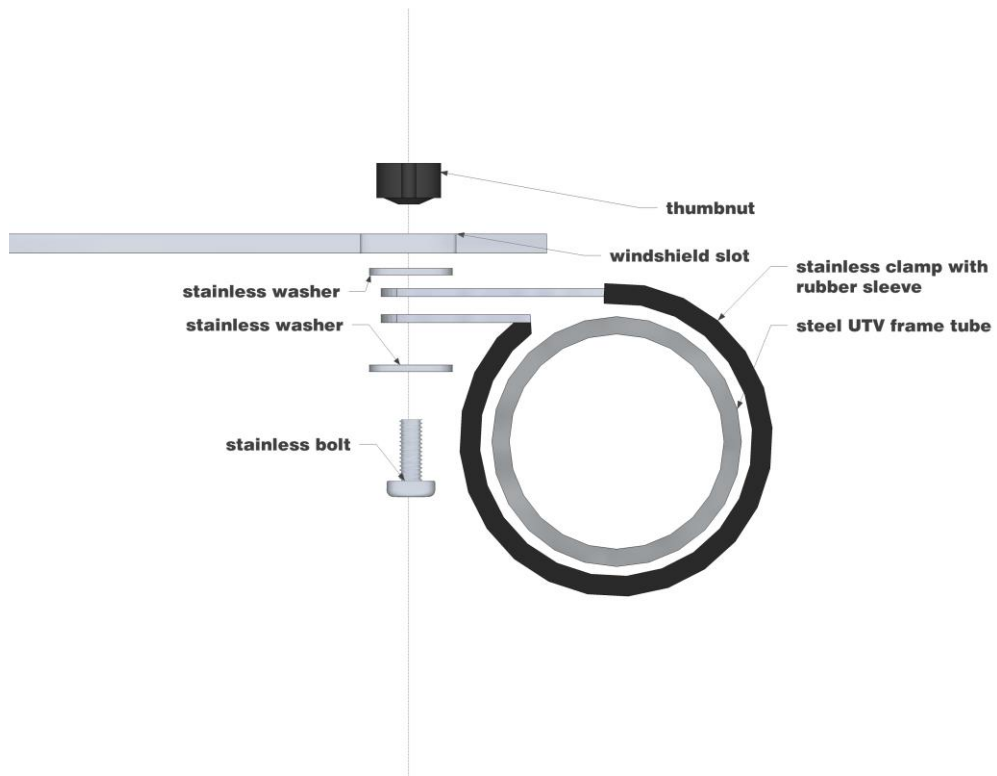

fig.2
5. Near the top slot in the windshield, take a 1-7/8" clamp and wrap it around the roll cage tube and then run a bolt with a washer through the two ends of the clamp from the inside out (see fig. 2). Then place another washer on the bolt after the